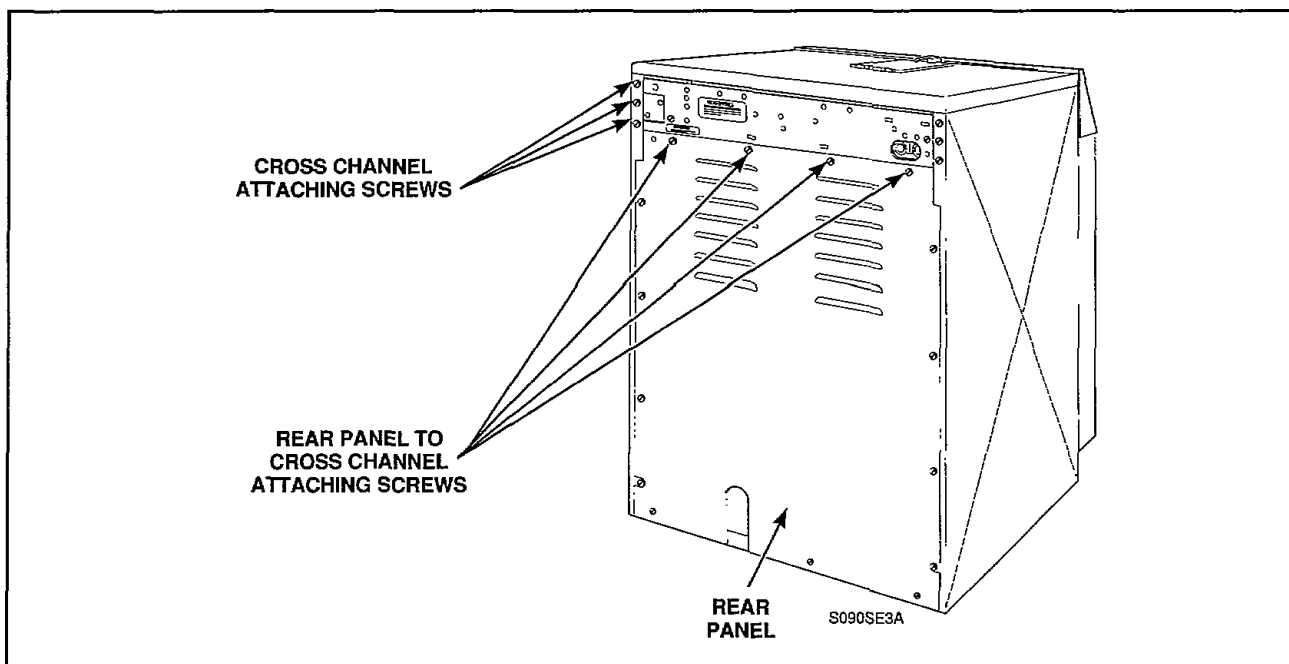

Figure 33
- n. Carefully remove screws and lockwashers holding cross channel to each side panel, *Figure 33*.
- o. Support cross channel and remove four screws holding top edge of rear panel to cross channel, *Figure 33*.
- Remove screws holding rear panel to washer, *Figure 33*.
- Remove rear panel from washer, *Figure 33*.